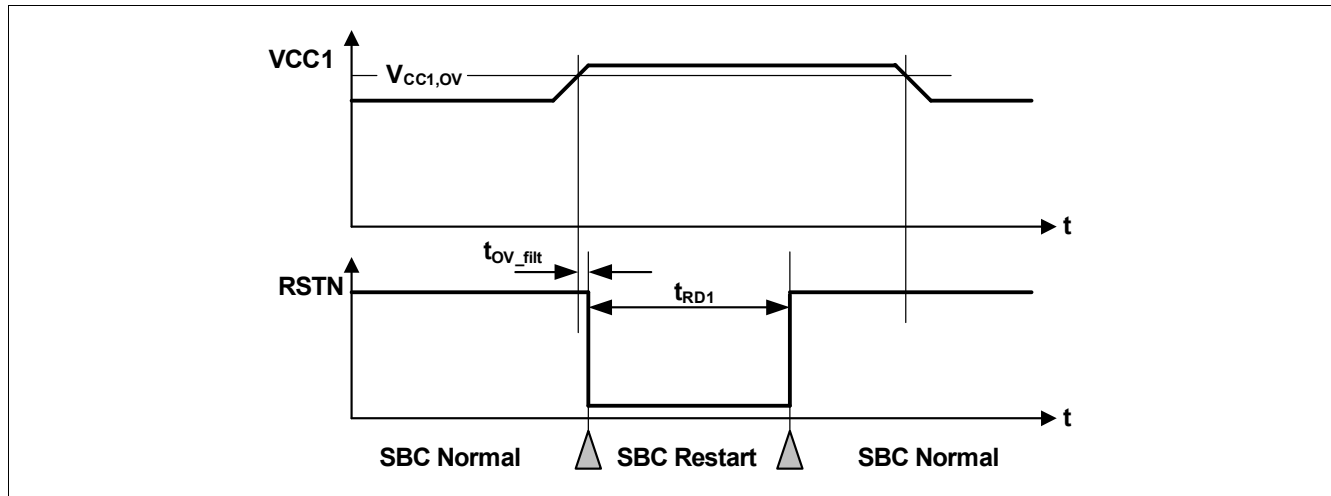

Figure 43 VCC1 Over Voltage Timing Diagram
- If the bit VCC1\\_OV\\_RST is set and CFG0\\_STATE = '1', then SBC Restart Mode is entered. The FO output is activated. After the reset delay time ( $t_{RD1}$ ), the SBC Restart Mode is left and SBC Normal Mode is resumed even if the VCC1 over voltage event is still present (see also Figure 43). The VCC1\\_OV\\_RST bit is cleared automatically;